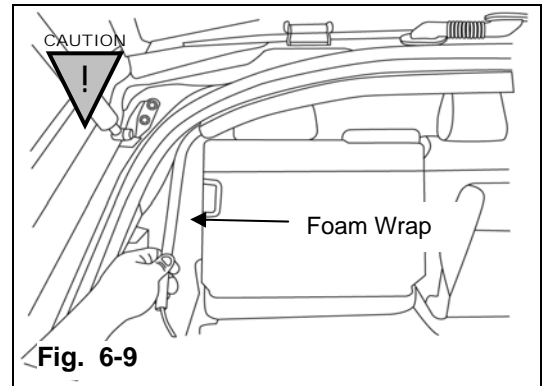

Fig. 6-9
9. Route video cable into headliner and wrap the provided 11-inch piece of foam wrap around video cable. (Fig. 6-9)